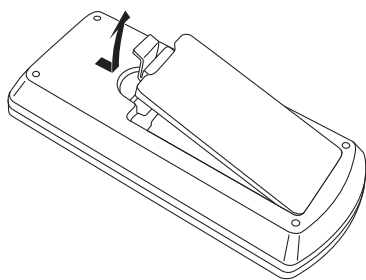

Figure 1
- 1) **Open the cover. (Figure 1)**